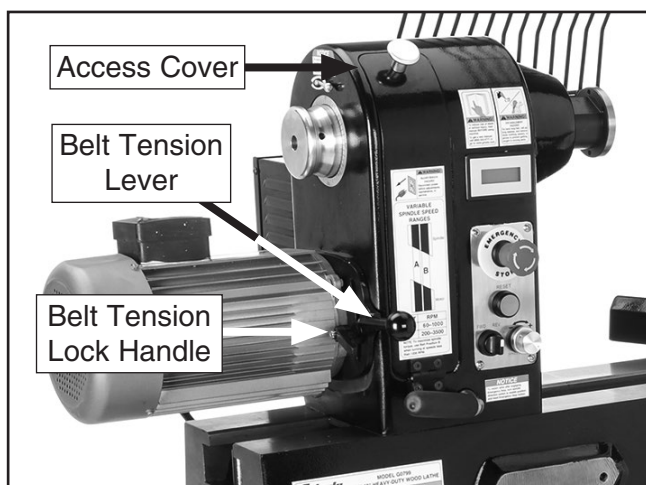

Figure 64. Location of belt tension components.
2. Open front belt access cover (see **Figure 64**).
3. Loosen belt tension lock handle (see **Figure 64**).
4. Use belt tension lever (see **Figure 64**) to lift motor assembly all the way up, then retighten motor tension lock handle—this will hold motor in place while you work.